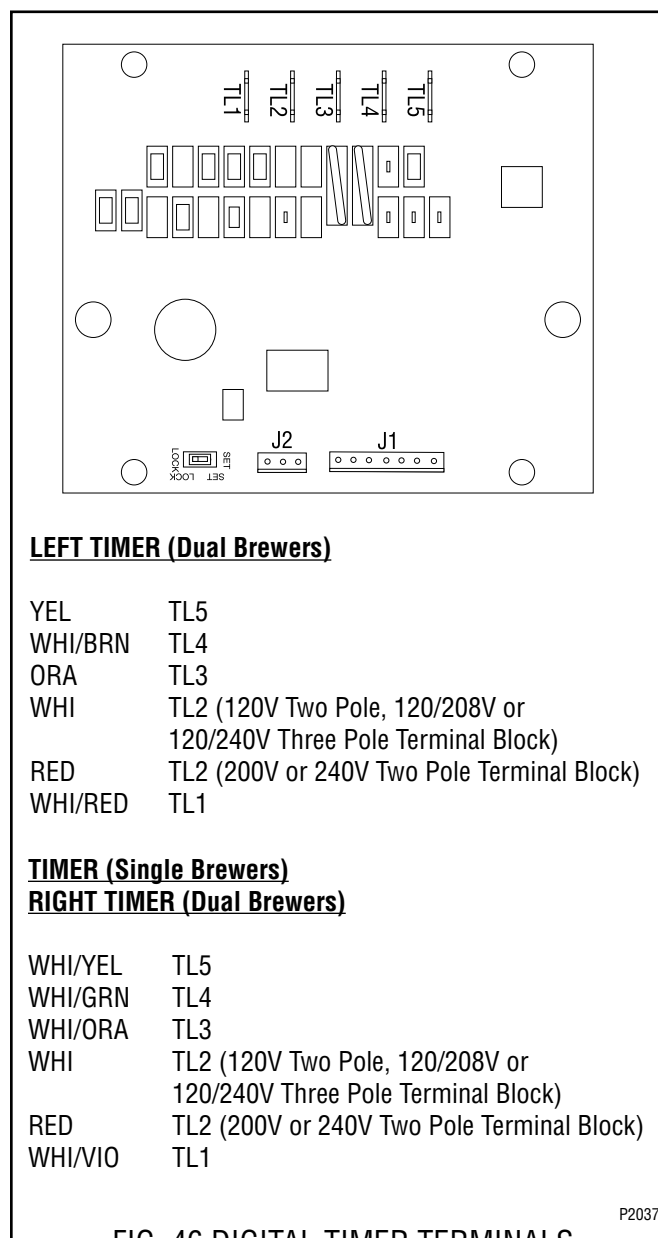

FIG. 46 DIGITAL TIMER TERMINALS
4. Attach all wires to the replacement timer board prior to installation to the component mounting bracket. Refer to FIG. 46 when reconnecting the wires.